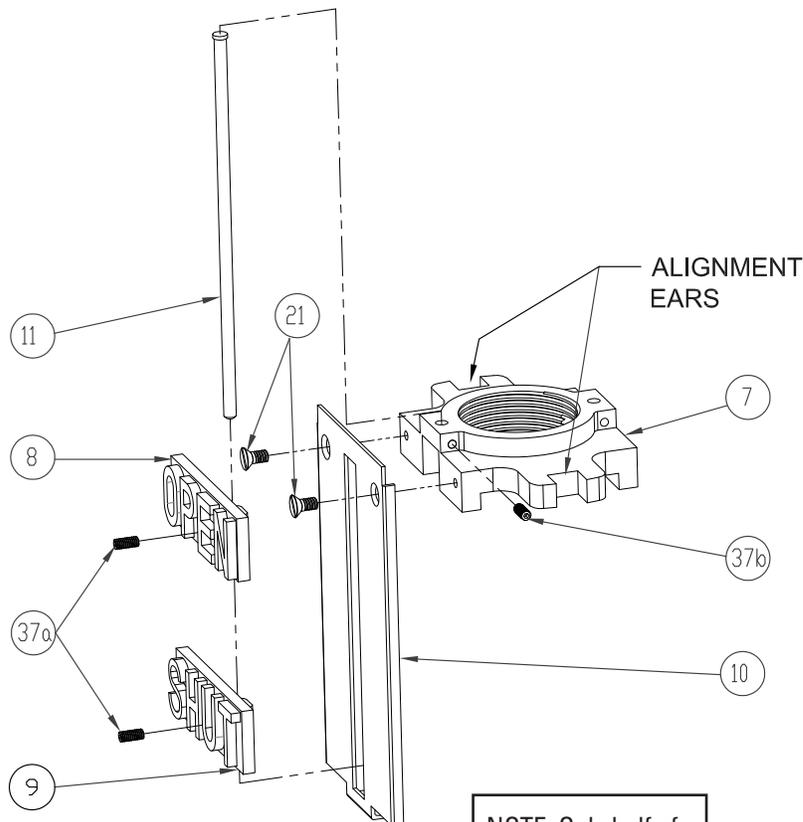

Fig. 5
- 4.4 Target Plates (8 & 9) must be positioned with the OPEN Plate (8) above the SHUT Plate (9) for “left-hand” (counter-clockwise) opening valves. See Fig. 5.